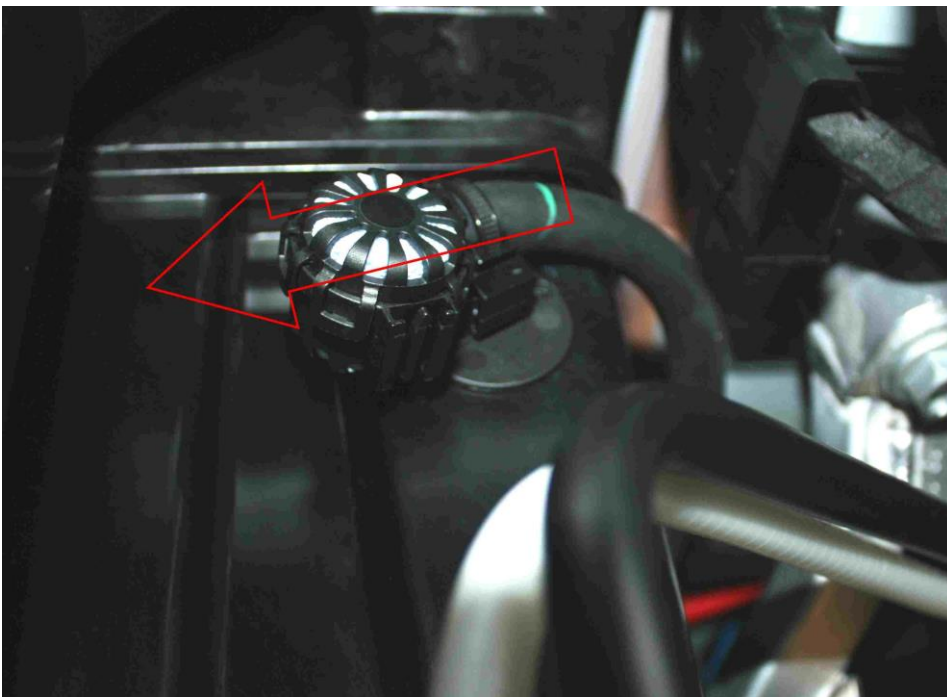

Figure 8
- Ensure the silencer is pointing downwards at the angle shown (Figure 8) Push fit/secure the silencer onto the tub